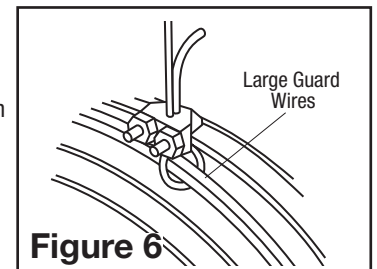

Figure 6
1. Loop one end of cable around the large guard wires of both the front and rear grills (**Figure 6**).
2. Attach a Cable Clamp with the "U" on the tail side of the loop leaving a tail approximately 1 to 2 inches. Tighten Clamp Nuts. Make sure no part of the Cable interferes with the Blade (**Figure 6**).